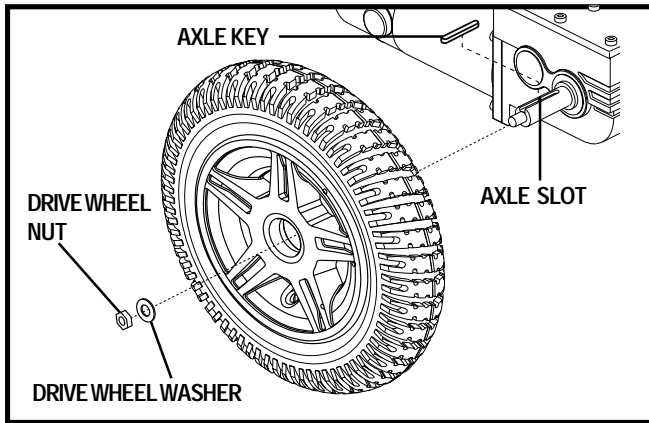

Figure 20. Jazzy Select 14 Series Drive Wheel
4. Remove the drive wheel nut and washer from the axle. See figure 20.